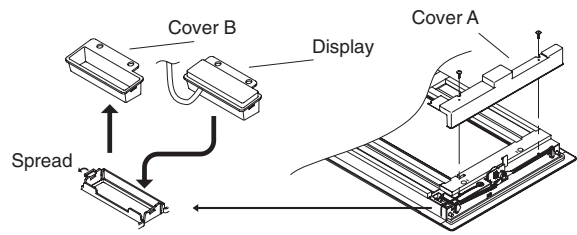

Fig. 3-13
- (1) Remove cover A from the rear side of the panel.
- (2) Cover B is fit inside cover A. Therefore, spread cover A and remove cover B, as shown in Fig. 3-13.